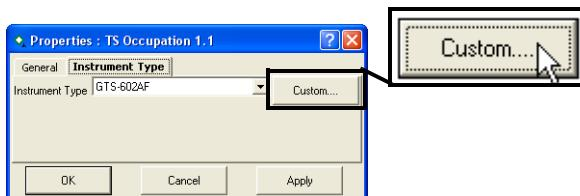

Figure 5-83. Open Custom TS Instrument List
- Click **Custom** (Figure 5-83 on page 5-59) to display the *Custom TS Instrument List*.